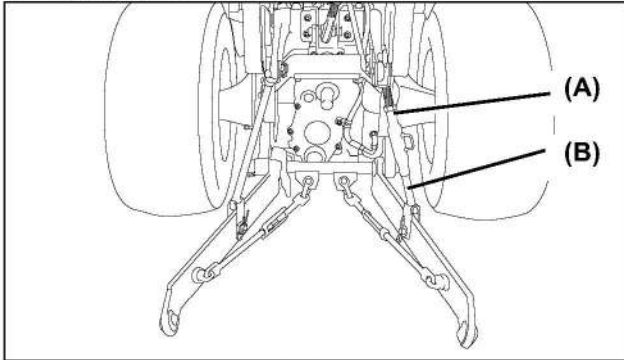

Fig 10-7
4. Loosen the locknut (Fig 10-7, A) located on the lift link right (Fig 10-7, B).